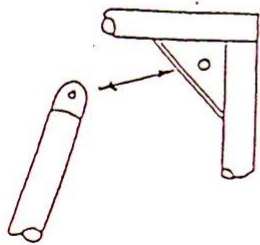

FIG 3
- (g) Tongue and gusset connections as in fig 3 may only be used in the diagonal brace, and must be made from a minimum of 6mm plate. Bolts used to secure such joints must be minimum 12mm diameter high tensile.